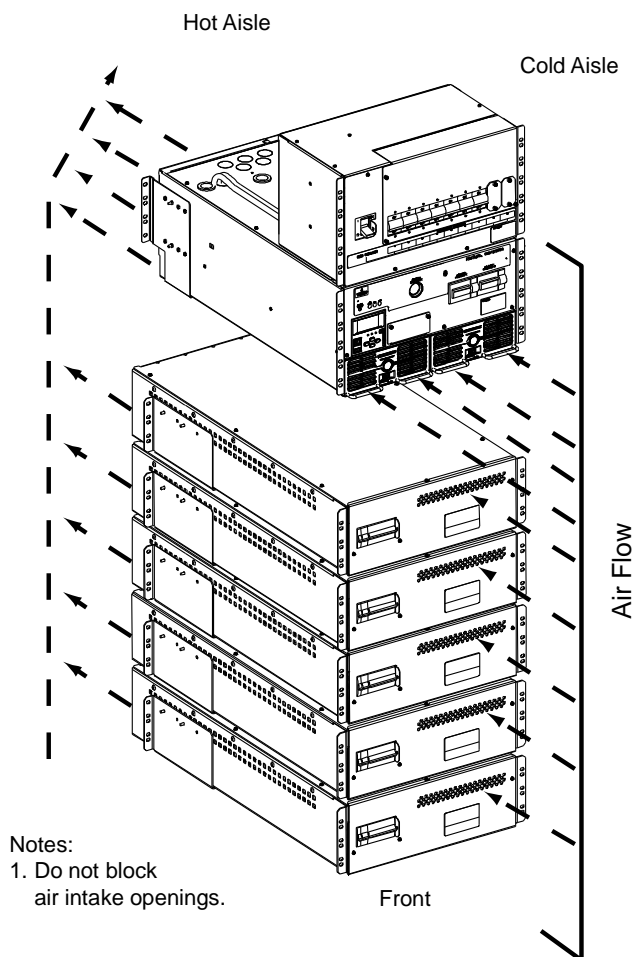

Figure 2-1
- Required minimum spacing from the rear of the power and control sub-rack to a wall or other solid surface is thirty-six (36) inches for proper ventilation of system components. Required minimum spacing from the rear of the load distribution sub-rack to a wall or other solid surface is twelve (12) inches for proper ventilation of system components.
- See Figure 2-1 for an air flow diagram.